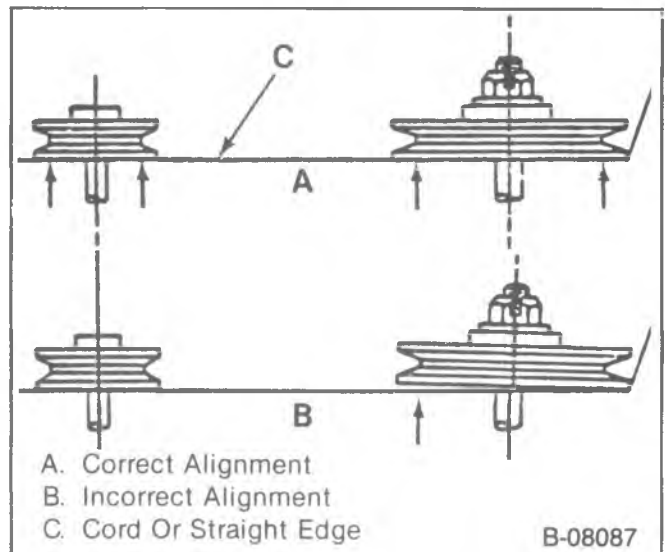

Figure 17—Checking the Pulley Alignment
1. Place a straightedge or position a cord across the two pulleys so they touch at all points (figure 17).